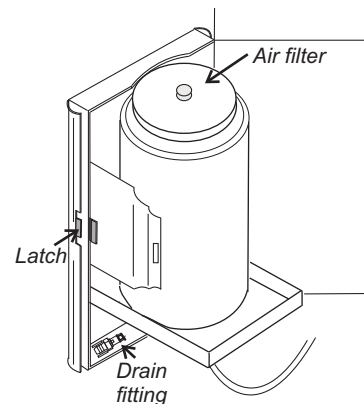

Figure 7-1. Water Bottle
3. Locate the humidity system drain fitting attached to the bottom of this door. See Figure 7-1.